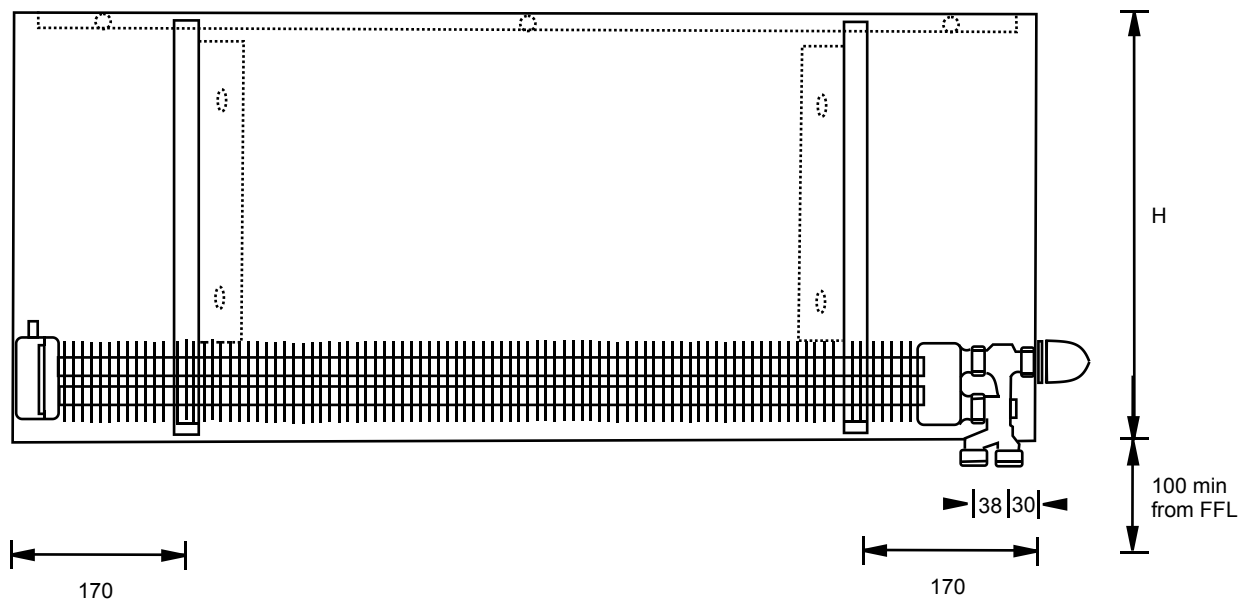

Fig 1 Sentry dimensions in mm, including pipe centres for Herz 2-pipe system valve. For height 'H' refer to data tables on pages 3 to 6
- The standard connection configuration is TBSE (Top Bottom Same End) is illustrated in fig 1, which permits the use of the Herz radiator valve with the choice of thermostatic controls shown on page 1. If one of the other connection configurations shown on page 7 is selected, Clyde can offer a suitable choice of valve. A special 'change-fix' spanner is available from Clyde for Herz valves.